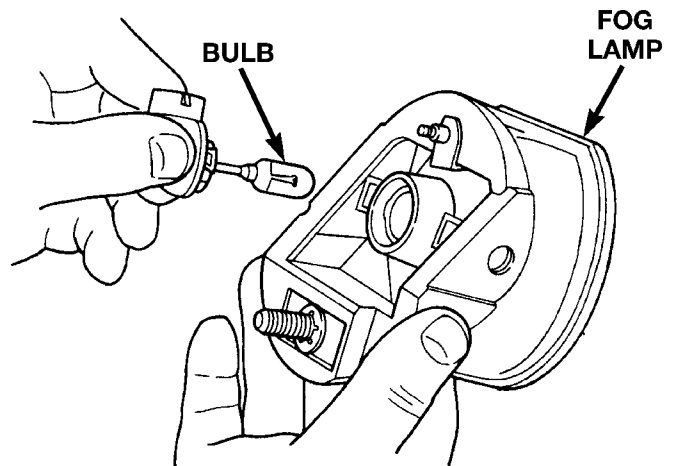

Fig. 2 Fog Lamp
- (1) Remove bolt holding fog lamp to radiator closure panel (Fig. 2).
- (2) Separate fog lamp from radiator closure panel.
- (3) Pull fog lamp through opening in fascia.
- (4) Disengage wire connector from fog lamp bulb base.
- (5) Separate fog lamp from vehicle.